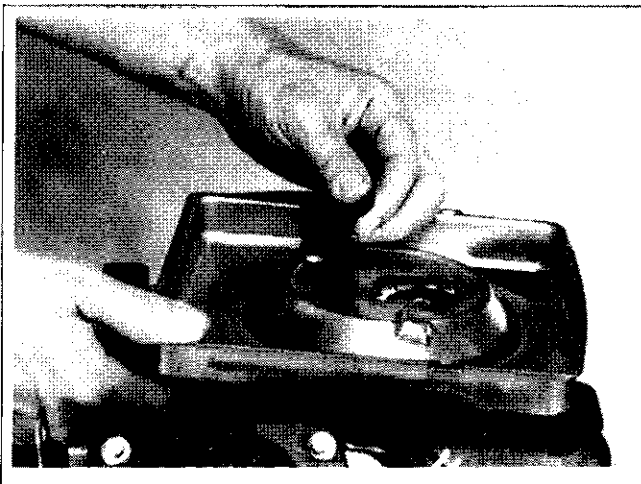

Figure 9-9. Removing Breather Tube from Base.
5. Remove the bracket then remove the base and gasket while carefully pulling the rubber breather tube through the base. See Figure 9-9.